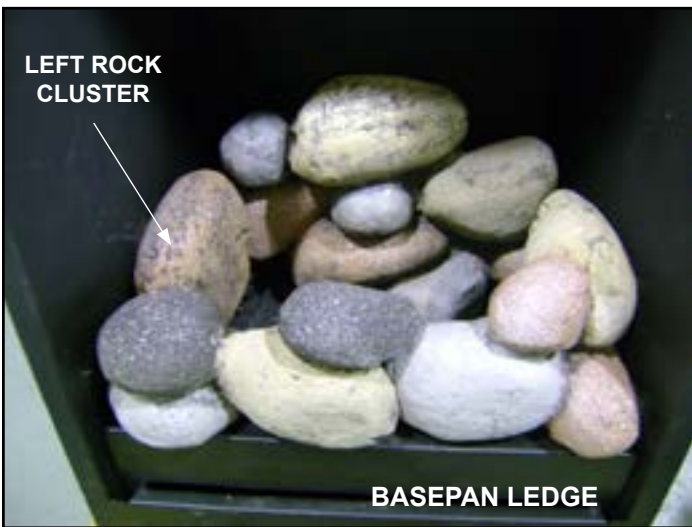
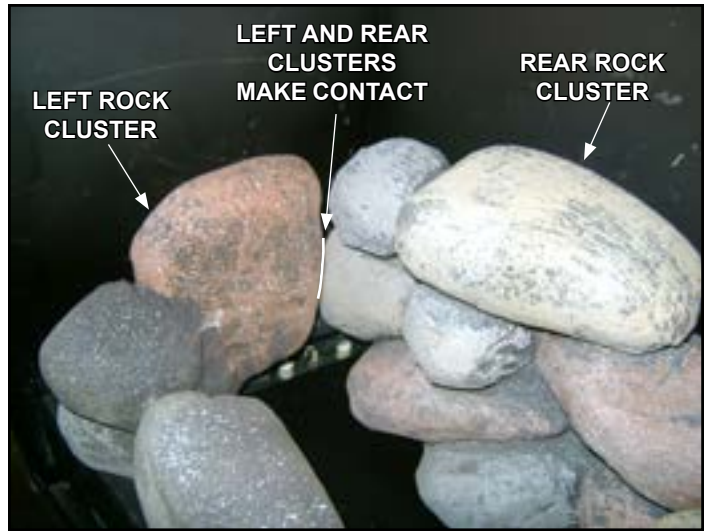

Figure 8.18 - Placing Left Rock Cluster
Figure 8.19 - Left and Rear Rock Clusters Make Contact
- Place left rock cluster in firebox as shown in Figure 8.18. The left end of the cluster should touch the left wall of the firebox. Push cluster back until the rear and left rock clusters contact each other as shown in Figure 8.19. Ensure the rock clusters are not covering any burner ports.